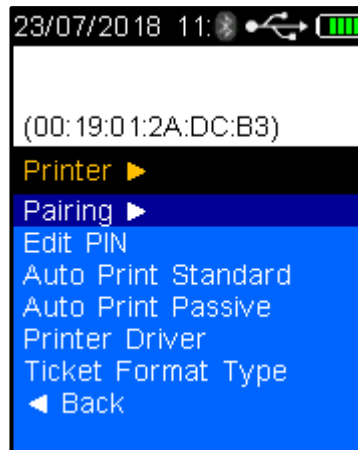

Figure 85 - Pairing Selected
- Select the up button once and use the test key to select Pairing (Refer to Figure 85).